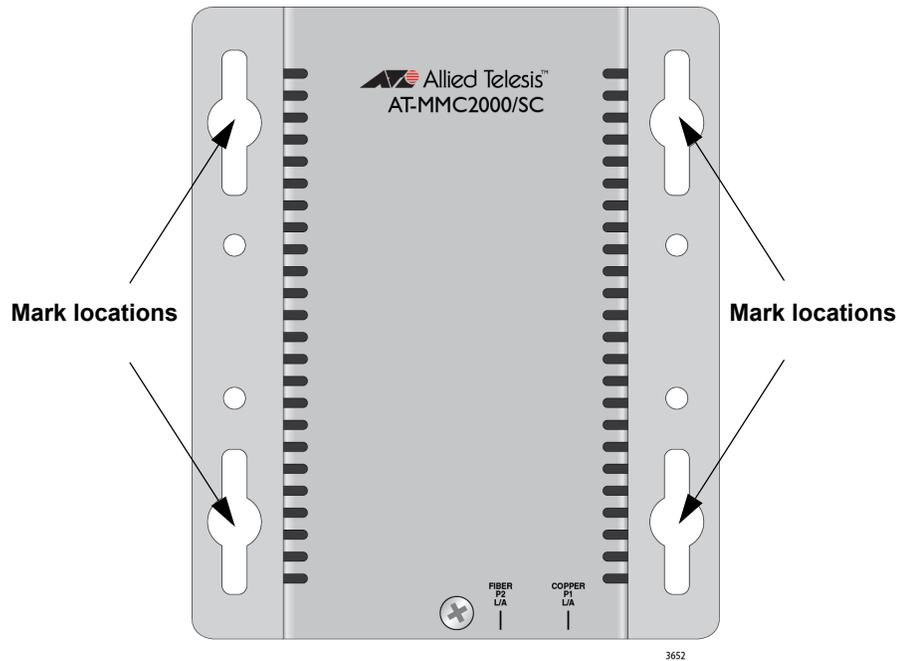

Figure 20. Marking the Screw Hole Locations
3. Use a pencil or pen to mark the wall with the locations of the four holes in the brackets. The media converter should be oriented as shown in Figure 20 on page 44.